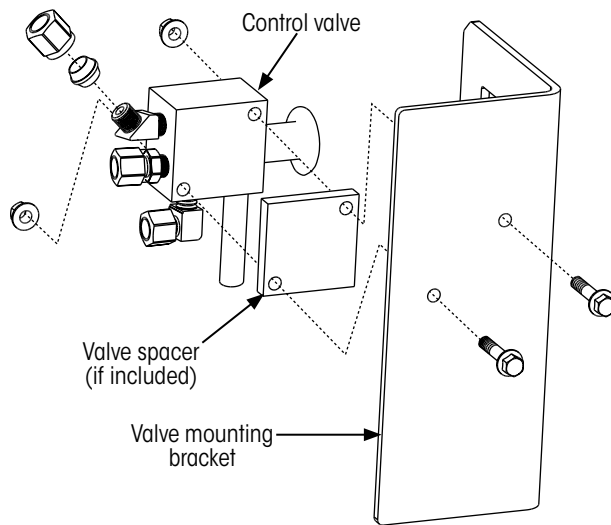

Figure 7: QUIK-DRAW control valve components
NOTE: Although the QUIK-DRAW® valve is the same for all applications, the mounting brackets and hardware (Figure 7) will vary between Hendrickson slider suspension types (HKANT, HKAT, HKAL, UTKNT, AAZ, etc.). Capturing photos of the original mounting may prove helpful when installing the replacement valve.
2. Orient the QUIK-DRAW control valve so the exhaust hose is facing downward and place the control valve, with spacer (if equipped, Figure 7), on the valve mounting bracket.
3. Using the two 1/4 - 20 x 1.5 inch hex head bolts, provided in the retrofit kit, insert the bolts through the QUIK-DRAW® valve, spacer (if equipped) and mounting bracket holes (Figure 7 on page 7).